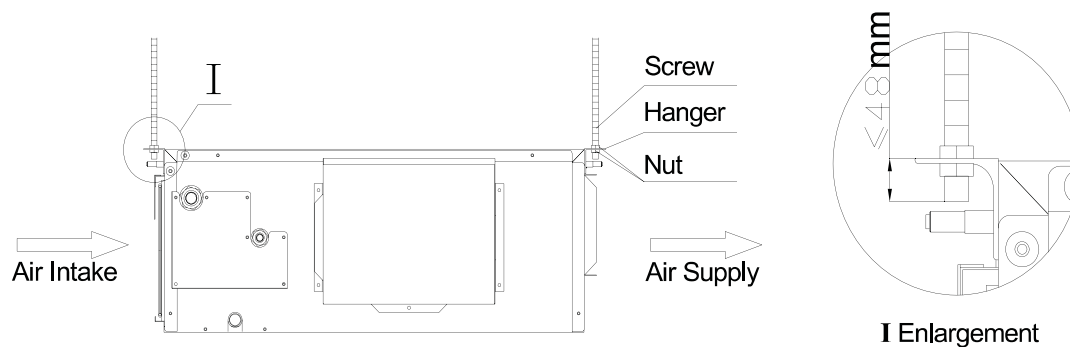

Figure 1-1-5
- 5) Install the indoor unit at the ceiling as Figure 1-1-5 shows.